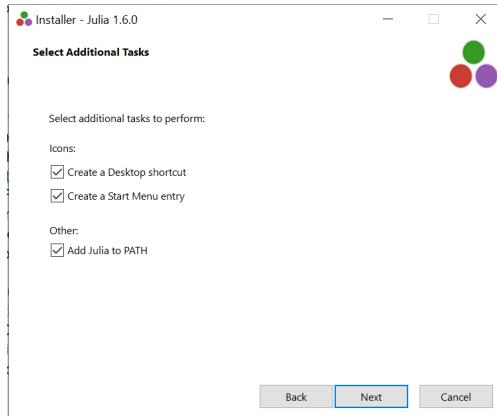

Figure 3.7: Installing Julia 1.6.0 on Windows
2. Locate the executable file. Right-click on it and hit Run as administrator to begin the installation. After selecting the Installation Directory, a window named Select Additional Tasks appears as shown in Fig. 3.7. In this window, check the box which says, Add Julia to PATH and click on Next to continue the installation.